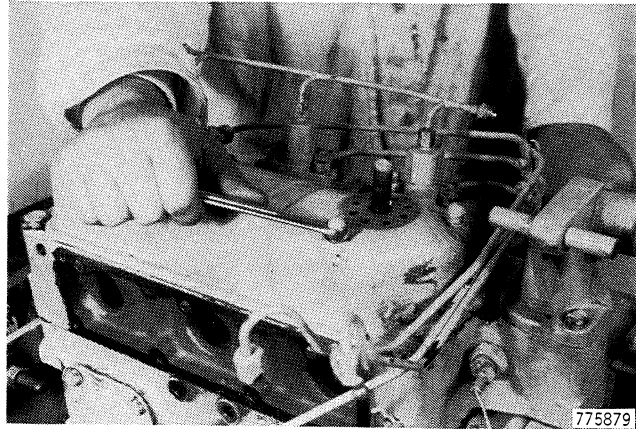

Figure 171
- Install new copper washers on valve cover studs. Install domed nuts on valve cover studs, Figure 171.